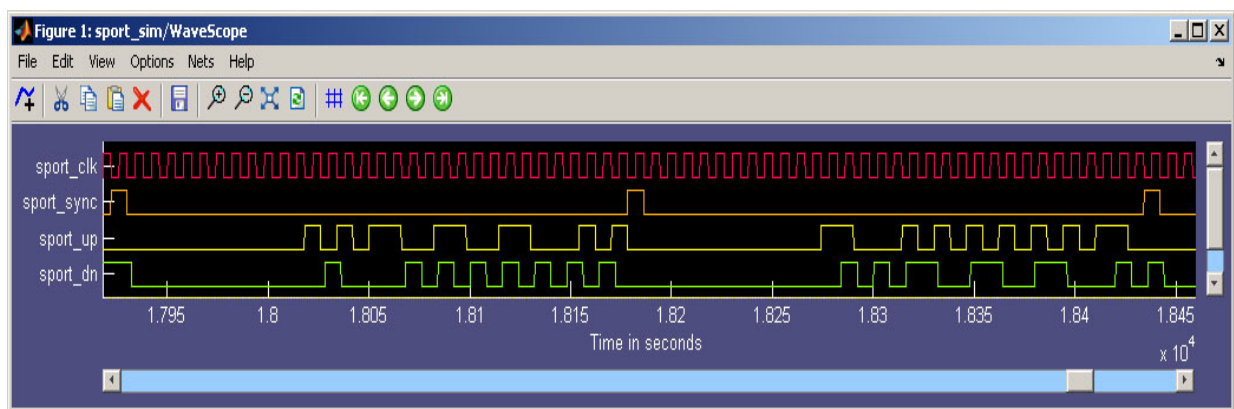

Figure 5-4: SPort Waveform
In Figure 5-4, `sport_up` shows a write cycle using address 0x5 and data 0xCCC5. Notice that the address is actually 0xA.
In Figure 5-4, waveform `sport_up` writes addr 0x0005, data 0xCCC5, addr 0x0006 data 5556 (actual: 0x000A,0xCCC5,0x000C,0x5556). `sport_dn` reads addr 0x0004, data 0x5554, addr 0x0005, 0xCCC5 (actual 0x0008,0xAAA4,0x000A,0xCCC5) delay one extra clock cycle.
**Note:** The `sport_dn` read begins 33 clock cycles after the corresponding `sport_sync` signal. The address is shifted by one bit to the left. In Figure 5-4, `sport_dn` shows a read cycle.